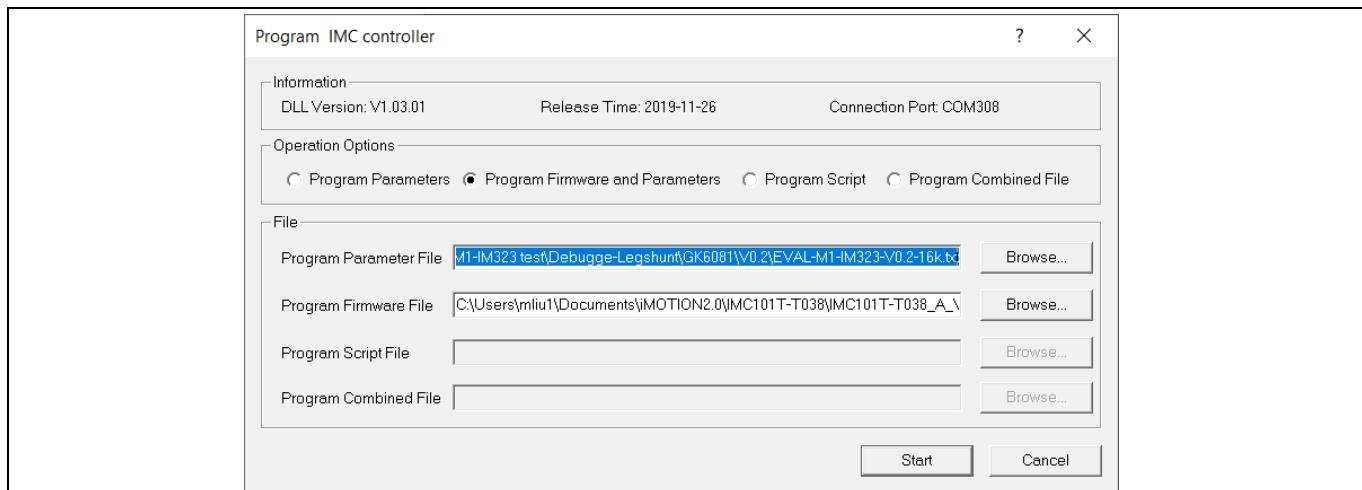

Figure 9 MCEDesigner's program page
- b) Click **Tools > Programmer** and select Program Firmware and Parameters, as shown in Figure 9.